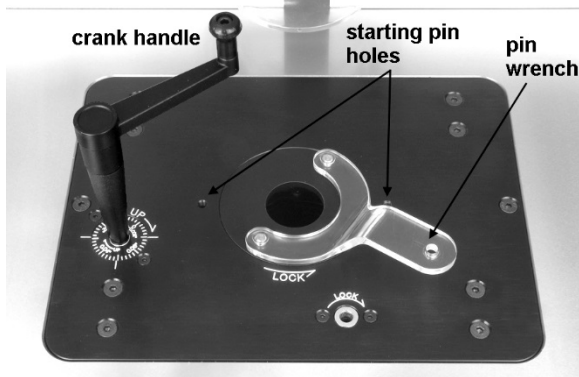
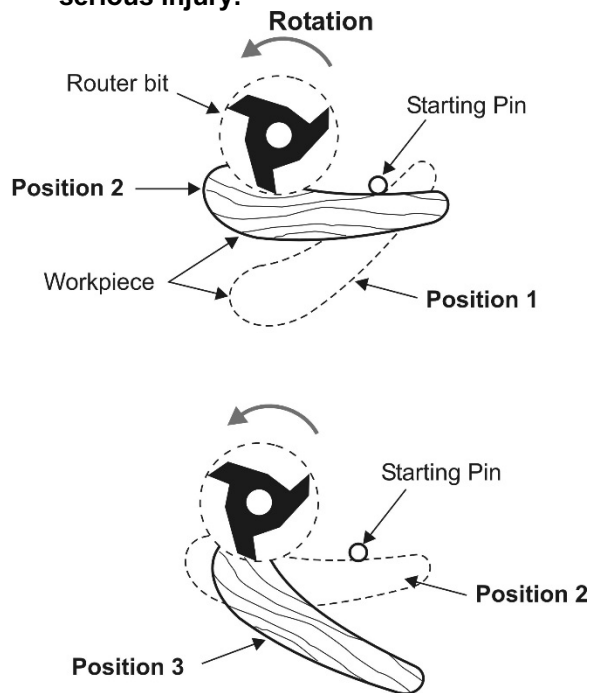

Figure 7-3
Figure 8-2
6. The starting pin can be inserted into one of two holes in the router plate (see Figure 7-3). It is used as a support to help pivot the workpiece into the bit when doing freehand work. See Figure 8-2.